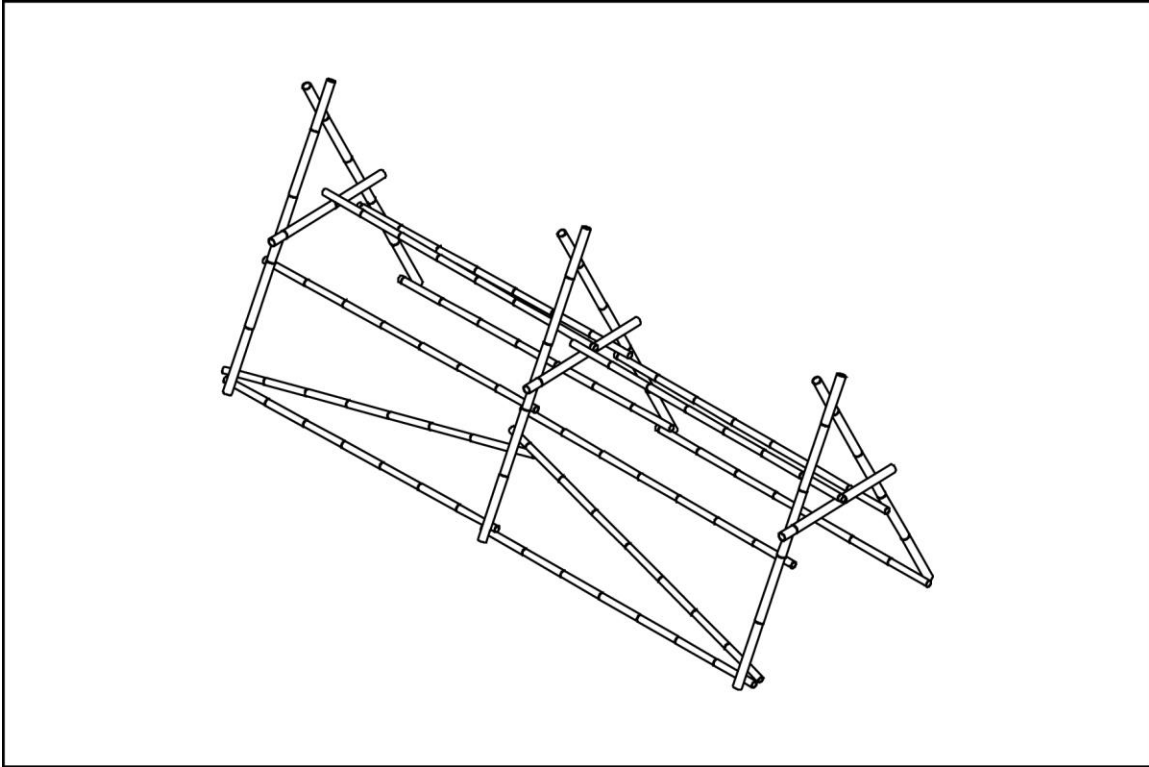

Figure 13: Diagonal bar side A
- ◆ Fix diagonal bars as shown in figures 13 and 14. You should fix bars on both sides but in opposite directions.
- ◆ On one side, one end of both diagonal bars meet at the middle frame, like an *inverted* “V”. See figure 13.